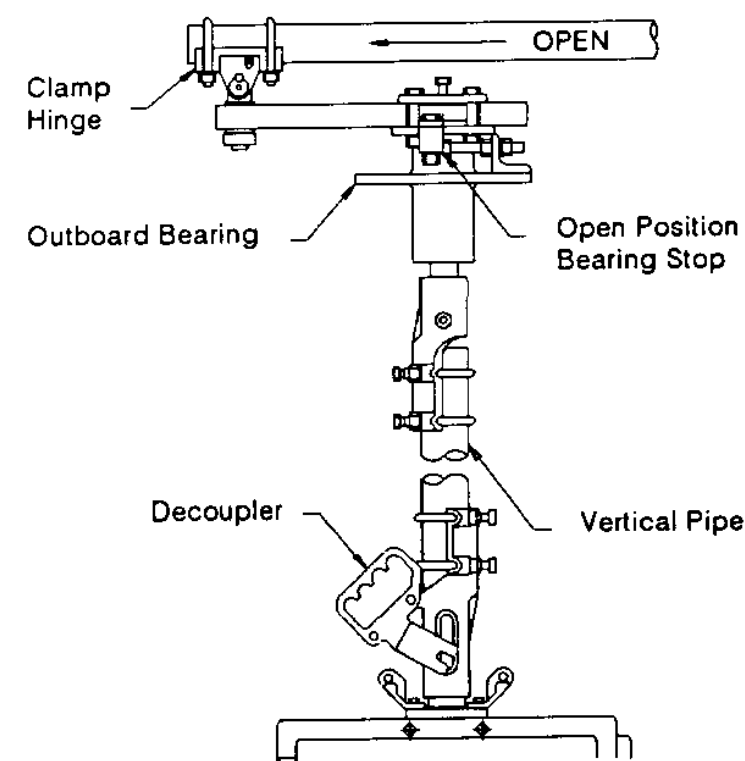

Figure 27 -- Vertical Control Pipe Installation
- 7. Install vertical control pipe between outboard bearing clamp and the flat abutment surface on the motor operator decoupler. Be sure the 5/8 inch gauge block is in position to space the decoupler at this height above the serrated disk on top of the motor operator as shown in Figure 27. Use kit #5 and kit #6 to mount the ground braid and position indicator respectively.